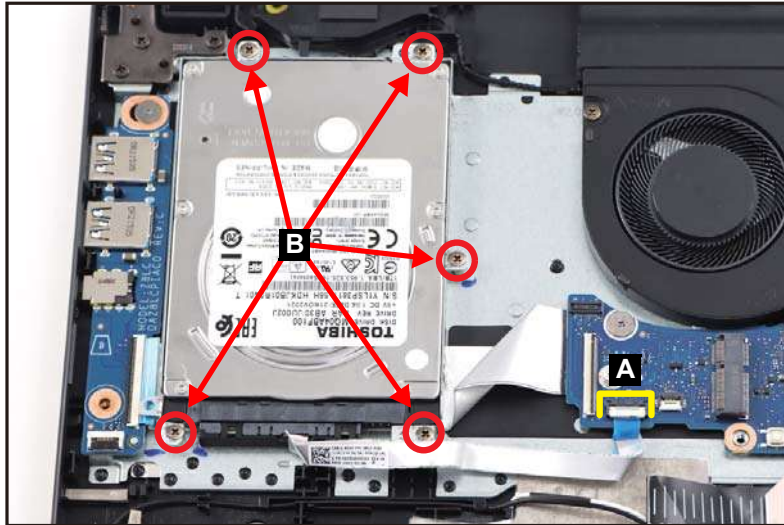

Figure 3-34. HDD Module Removal
1. Disconnect the HDD cable from the mainboard connector (A) (Figure 3-34).
2. Remove five (5) screws (B) securing the HDD bracket (Figure 3-34).